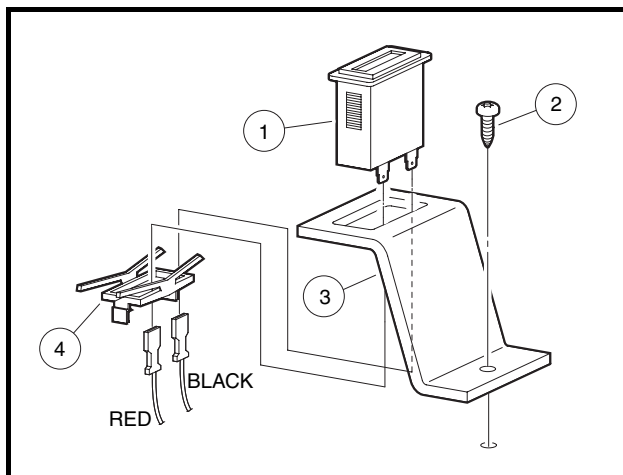

Figure 12-23 Hour Meter Installation
2. Disconnect the wires from the hour meter (1) (**Figure 12-23, Page 12-23**).
3. Remove screw (2) to release bracket (3).
4. Remove keeper (4) from hour meter to release meter (1) from bracket (3).
1. Install a new hour meter into bracket (3) and secure it by sliding the keeper (4) onto it (**Figure 12-23, Page 12-23**).
3. Position bracket (3) on the vehicle and secure in place with screw (2).